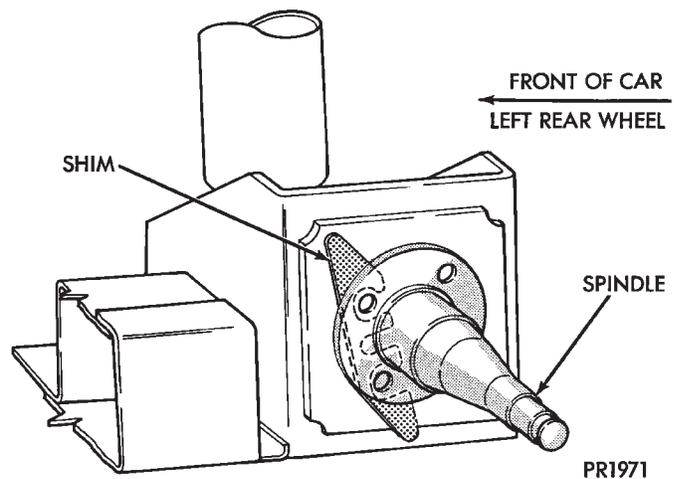

Fig. 3 Shim Installation for Toe-Out
Alignment adjustment if required. Is made by adding 0.010 inch shims (from the service package kit) between the spindle mounting surface and axle mounting plate. Each shim equals wheel change by .3° as shown (for all car lines) in (Figs. 3 to 6).
(10) Install shims as shown in Figs. 3, 4, 5 and 6 for desired wheel change. No more than two shims on each spindle should be used to bring alignment within acceptable range.